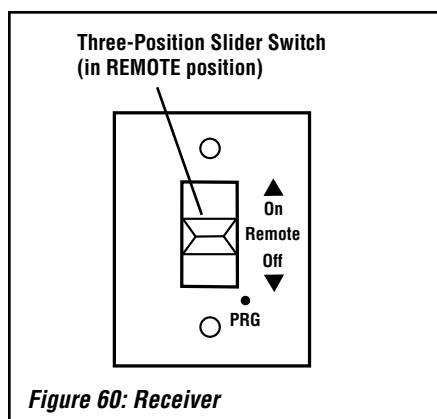

Figure 60: Receiver
Place the three-position slider switch in the "Remote" position (see Figure 60, next page). Using the end of a paper clip, or other similar object, insert the end of the paper clip into the hole marked "PRG" on the Receiver front cover. The Receiver will "beep" three (3) times to indicate that it is ready to synchronize with a Transmitter.